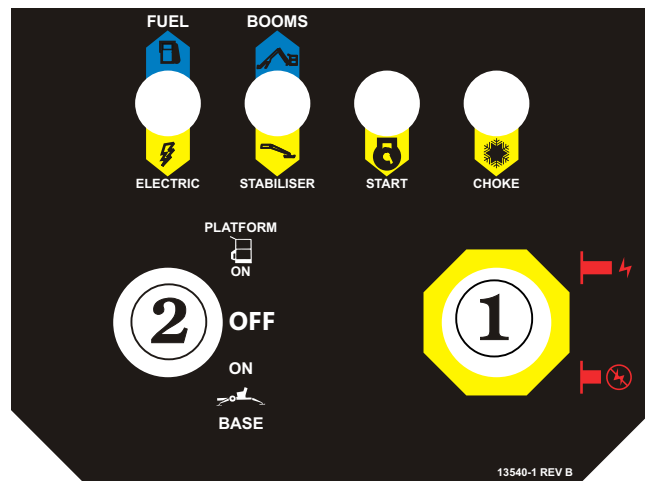

Figure 11.1 - Ground Control Box, Hydraulic Controls
1. The **Emergency Stop** switch **①** must be (ON) (see Figure 11.1).
2. The **Platform/Ground Selector** switch **②** must be set to PLATFORM.